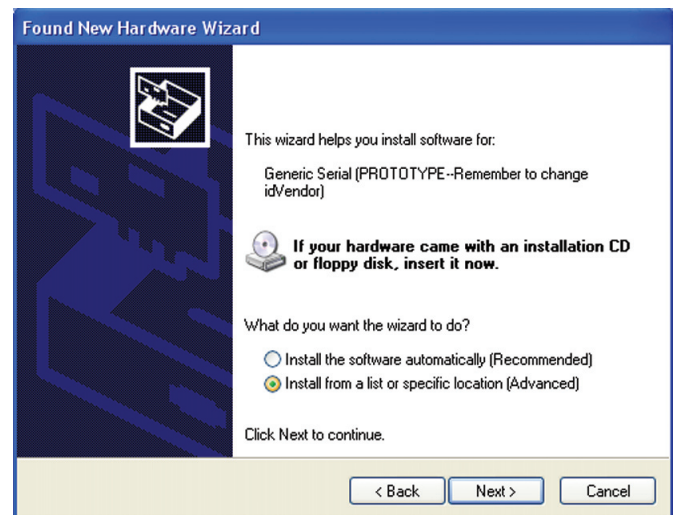

Figure 5.1.3 Install From A Specific Location
- s. Choose “Install from a list or specific location,” as shown in Figure 5.1.3, then click “Next”.